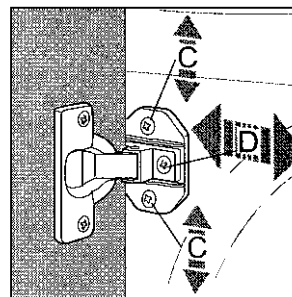

Fig. 9
- To adjust the position of the wooden panel in both the vertical and horizontal directions, use the **C** and **D** screws, as shown in Fig.9.